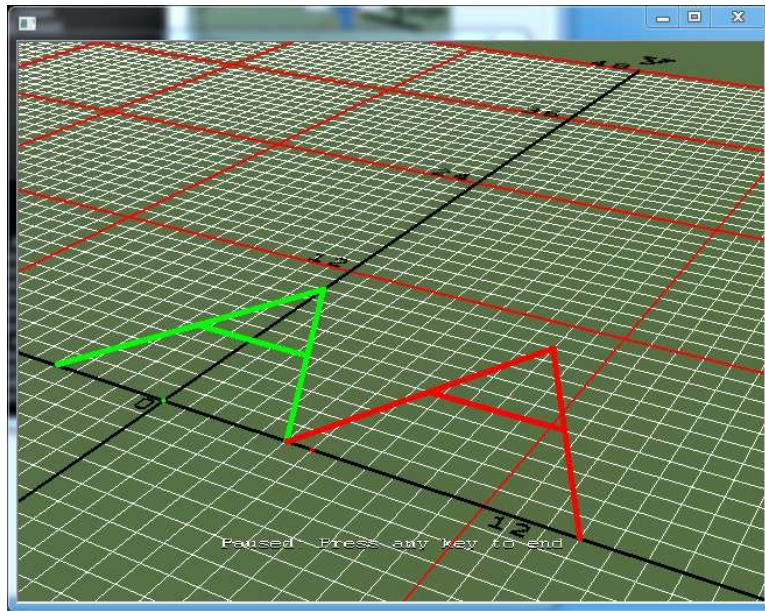

Figure B.29: Moving two virtual Linkbot-Is to trace two letters of 'A'.
1. Write a program `traceon4.ch` to trace two letters 'A' in RoboSim as shown in Figure B.29. The horizontal line for the first letter 'A' can be drawn from the point  $(-2.5, 5)$  to the point  $(2.5, 5)$ . The horizontal line for the second letter 'A' is from the point  $(7.5, 5)$  to the point  $(12.5, 5)$ .